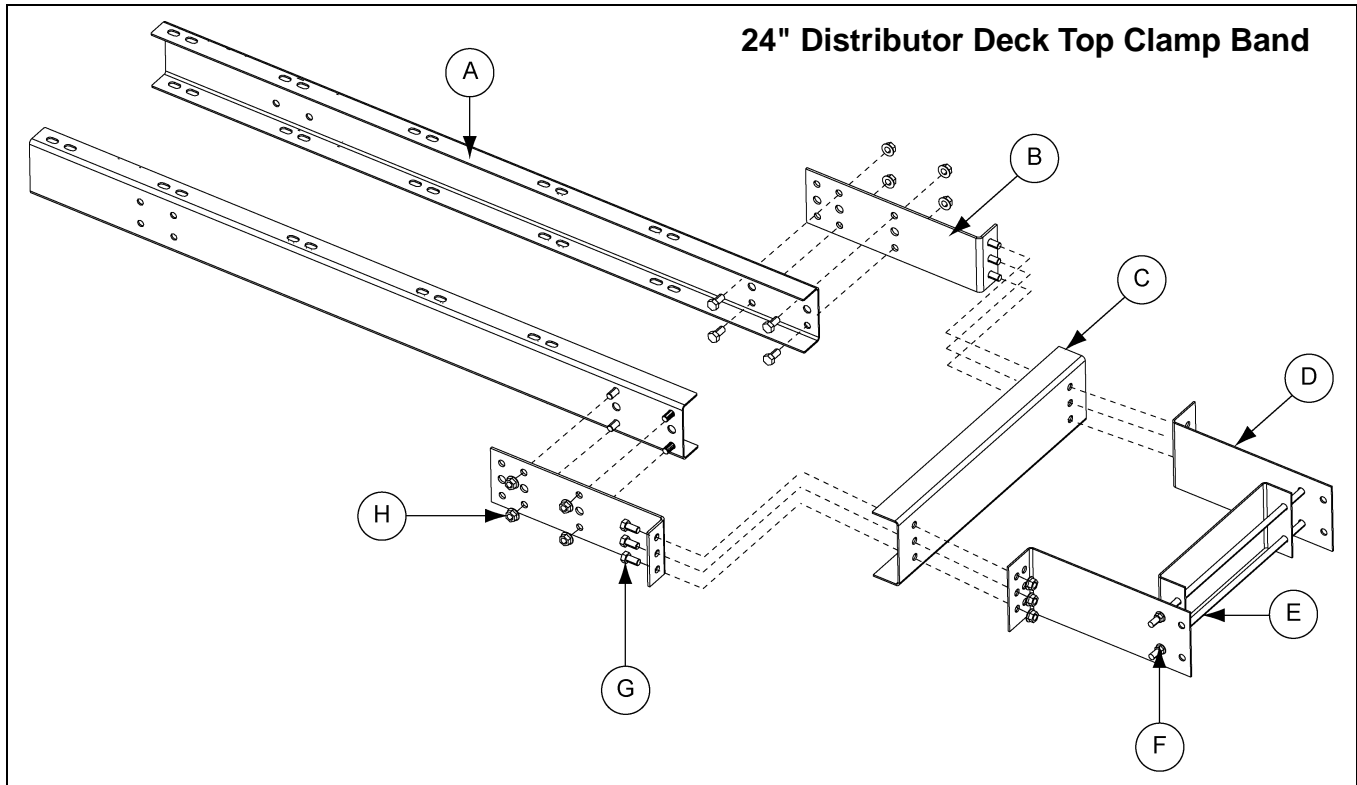

Figure 10C
1. Slide rods of clamp rod weldment into inside set of holes of clamp bands for 24" assembly. Fasten together using four (4) 1/2" hex flange nuts.
2. Line up the holes on the support channels with the inside set of holes on the 16"-24" long clamp clips and fasten all four (4) together using eight (8) 1/2" x 1" bolt and nuts.
3. Assemble the 16"-24" long clamp assembly, clamp channel and clamp rod assembly at same time around the trunking. Place clamp rod weldment assembly around the trunking leg and line up holes on 16"-24" long clips and clamp channel with the **outside set of holes** on the clamp rod weldment. Fasten all three (3) together using six (6) 1/2" x 1" bolts and nuts. (See Figure 10C.)